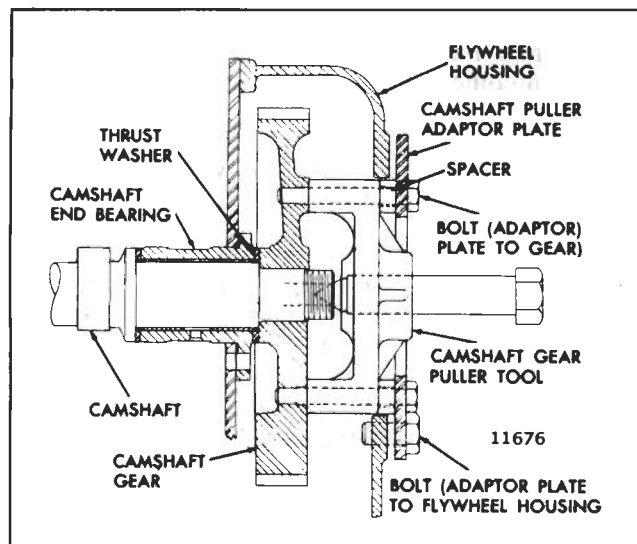

Fig. 6 - Removing Camshaft with Camshaft Gear Puller J 1902-01 and Adaptor Plate Set J 6202
13. Install the camshaft gear puller J 1902-01, four spacers J 6202-2 and camshaft gear puller adaptor plate J 6202-1 on the camshaft gear (Figs. 6 and 7).